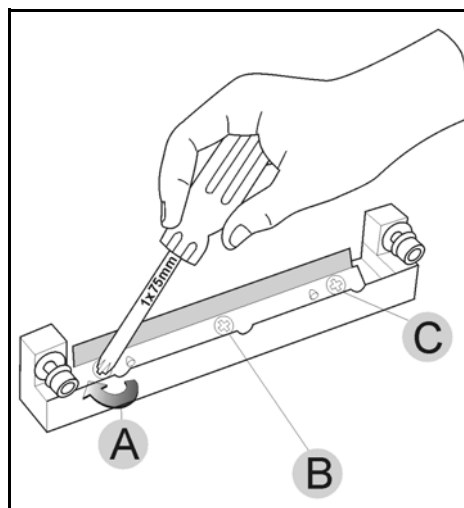

Figure 6-40: Tightening the roller scraper screws
- Tighten the screws in the order shown in figure 6-40.